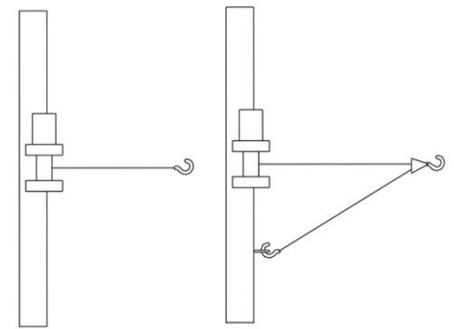

Figure 1
b. DO NOT OVERLOAD. Be sure that any item to be moved falls within the maximum line pull rating of the winch. The use of a pulley block is recommended to double line the wire rope and reduce the load on the winch, on the rope (steel or synthetic), on the motor and on the battery. Where used, the pulley block should be rated to a minimum of twice the winch's line pull rating. SEE FIGURE 1.